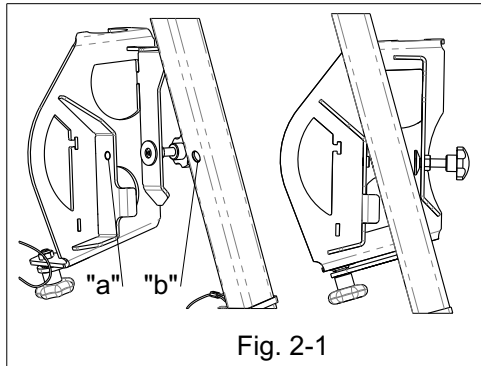

Fig. 2-1
1. Place the bracket to the tripod's leg side - fig. 2-1. Pay attention so that the pin 'a' of the bracket is placed opposite a hole 'b' placed on bottom surface of the leg.